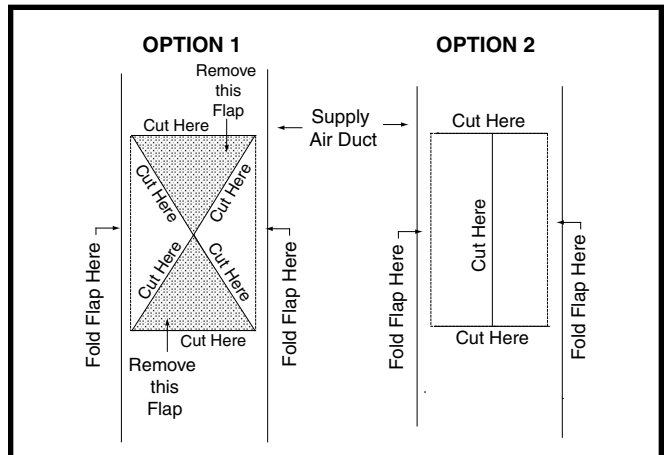

Figure 11. Narrow Air Duct Openings
- Score and cut the top of the supply air duct as indicated in Option 1 or Option 2. See Figure 11 (page 7).